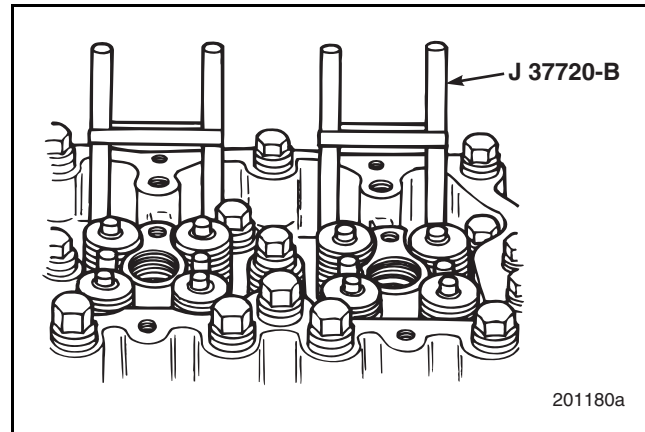

Figure 6-46 — Tappet Holder Tool
4. Secure the lifter in the UP position with grommets provided in the tappet holder. The holding tool shafts of two adjacent valve lifters can be prevented from dropping by wrapping a rubber band around the two shafts. This draws the shafts together and holds them in position. Refer to Figure 6-46.